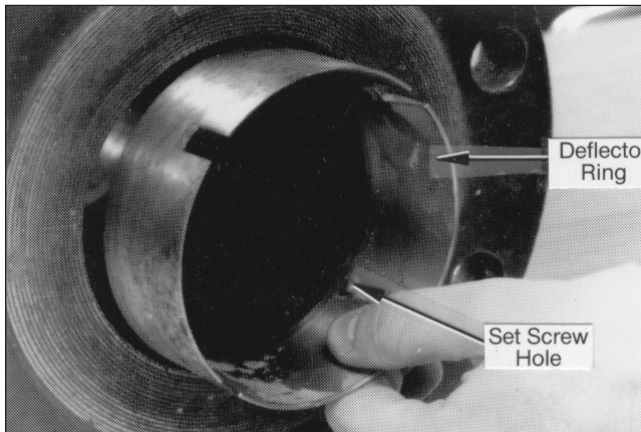

Figure 14
13. For a unidirectional turbine meter, it is not necessary to remove deflector ring in order to service meter internals. If ring is removed, it must be relocated exactly in its former position when reinserted as ring properly positions upstream stator in relation to down-stream stator. If necessary to remove, remove set screw and slide ring out from upstream end of meter, Figure 14.